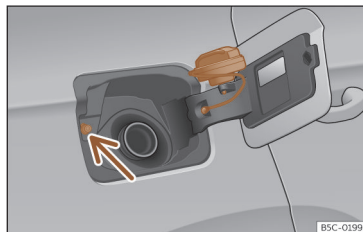

Fig. 202 Fuel tank flap with tank cap attached.
Avoid touching the fuel tank flap lock button » » » **Fig. 202** (arrow). The system will interpret that you have finished and cannot continue refuelling. Press the  button on the driver's door again to continue.
- Place it in the space on the hinge of the open flap » » » **Fig. 202**.